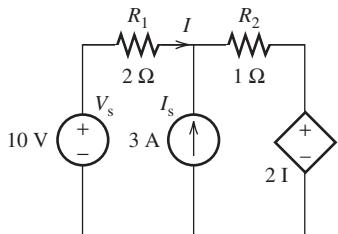

FIGURE P3.69 Circuit for Problem 3.69.
- 3.69 (A)*** Find the current I in Figure P3.69 using the superposition principle.